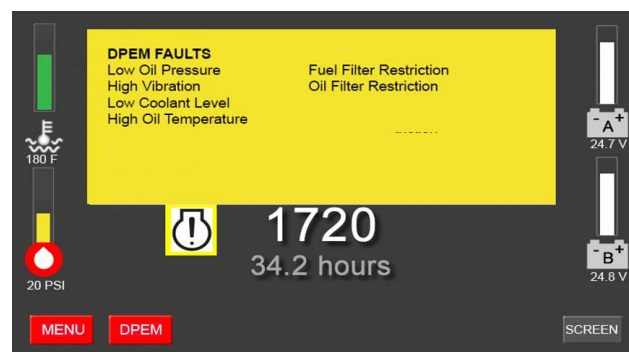

Figure 2-15 DPEM fault screen (sample)
- **From the FPDP** - As shown in Figure 2-15, the warning symbol will illuminate and the overlay will activate in yellow with the text of the active fault.